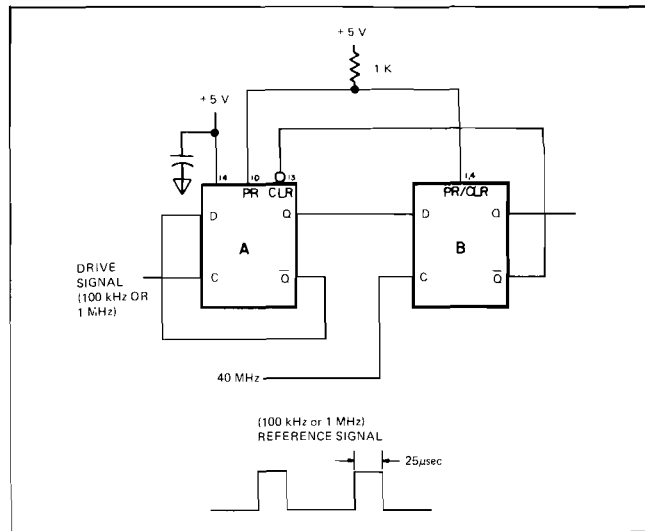

Figure 8-14. Pulse Gate.
8-127. Each pulse gate is comprised of two flip-flops (see Figure 8-14). The drive signal (100 kHz or 1 MHz) clocks the first flip-flop (A) while the second flip-flop (B), in both the 100 kHz or 1 MHz pulse gate, is clocked by a 40 MHz signal. The CLEAR line of flip-flop A is controlled $\overline{Q}$ of flip-flop B. Both flip-flops A and B are clocked by low-to-high transitions. When the Q output of A goes high, the next clock of B establishes a high at Q and low at $\overline{Q}$. The low of $\overline{Q}$ from B clears A (Q low). The next 40 MHz clock to B drops its Q output low and puts a high on CLEAR of A. The result is the output of the pulse gate (Q of flip-flop B) goes high at one 40 MHz low-to-high transition and goes low the next low-to-high transition creating a pulse the width of a 40 MHz cycle. The sequence of generating a pulse is repeated every low-to-high transition of the drive signal (100 kHz or 1 MHz) which clock flip-flop A.